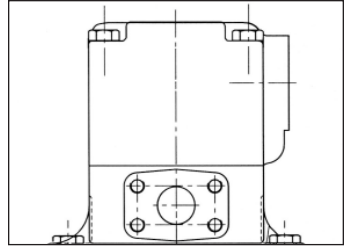

Fig. 41
1. Install the pump on the table. (A hole in the table or a bracket will help to unscrew the 4 pump bolts.) **(Fig. 41)**